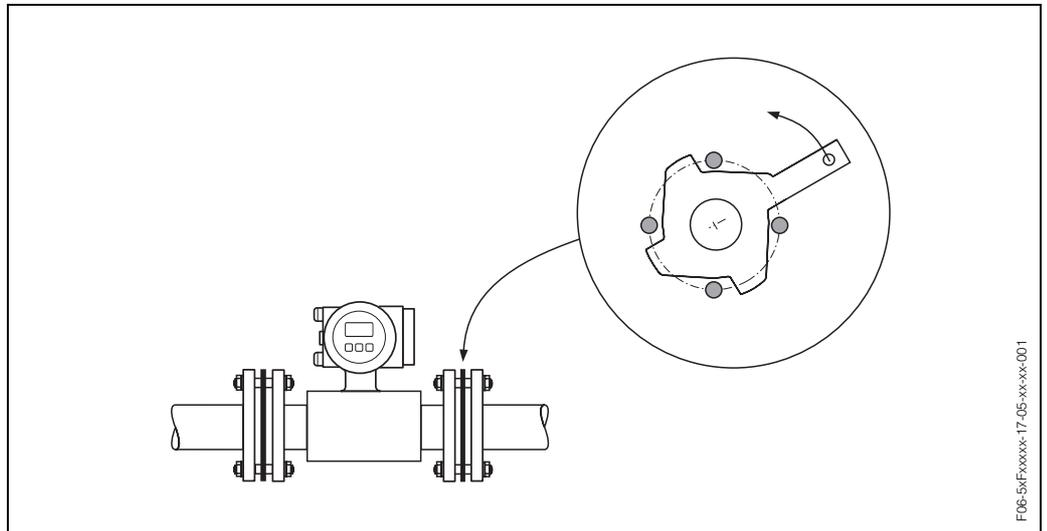

Fig. 20: Assembly with ground disks (Promag P, DN 15...300)
1. Place the ground disk and the additional seal between the instrument and the pipe flange (Fig. 20).
3. Now rotate the ground disk as shown in Fig. 20 until the handle strikes the bolts. This will center the ground disk automatically.